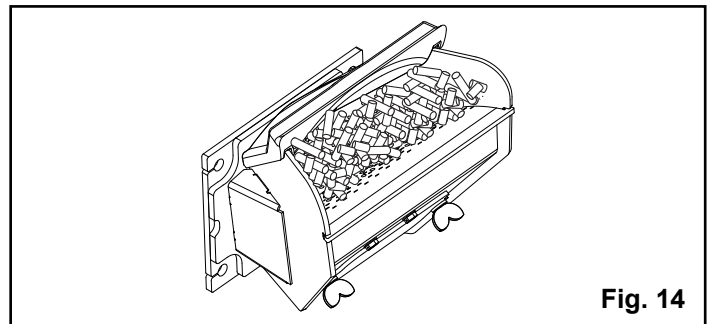

Fig. 14
8. Fill the burnpot with pellets as shown. See Fig. 14. Only fill level with the front edge.